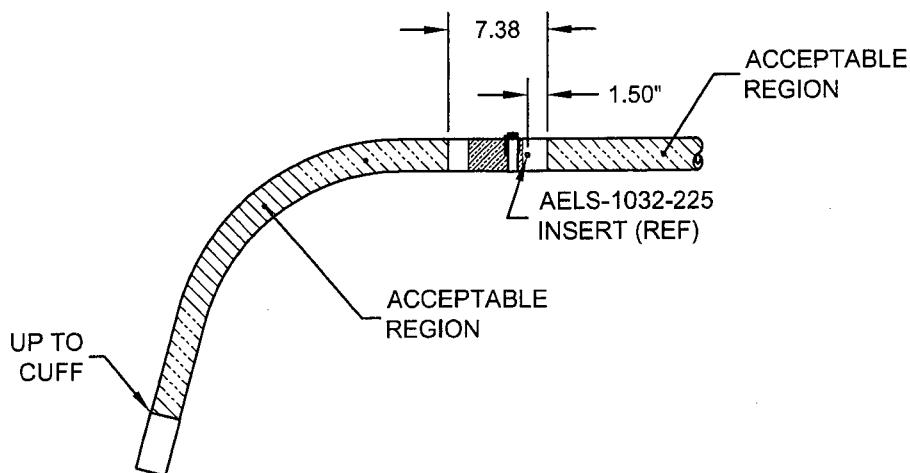

FIGURE 2 - ACCEPTABLE REGIONS TO BE COATED WITH ARMOR SHIELD
To further protect Dart crosstubes from mechanical damage in service, they may be treated with "Armor Shield" surface treatment. To designate crosstubes with 'Armor Shield' add 'A' to the Part Number. For example, D206-667-101A is a D206-667-101 crosstube coated with Armor Shield. The Change Number of Dart crosstubes with "Armor Shield" is affected as per above table. It is acceptable to apply the Armor Shield in regions shown in Figure 1 or Figure 2 only. It is **NOT** acceptable to apply Armor Shield in the cuff and support/clamp regions.
- 1.3 Mask areas around supports and cuffs per Figure 1 or Figure 2 (D350-748-101/-201 only). Abrade paint finish in areas requiring protection using 800 grit sandpaper. Ensure the surface is de-glossed.
(SEE FIGURE 2 FOR D350-748-101/-201 CROSSTUBES)